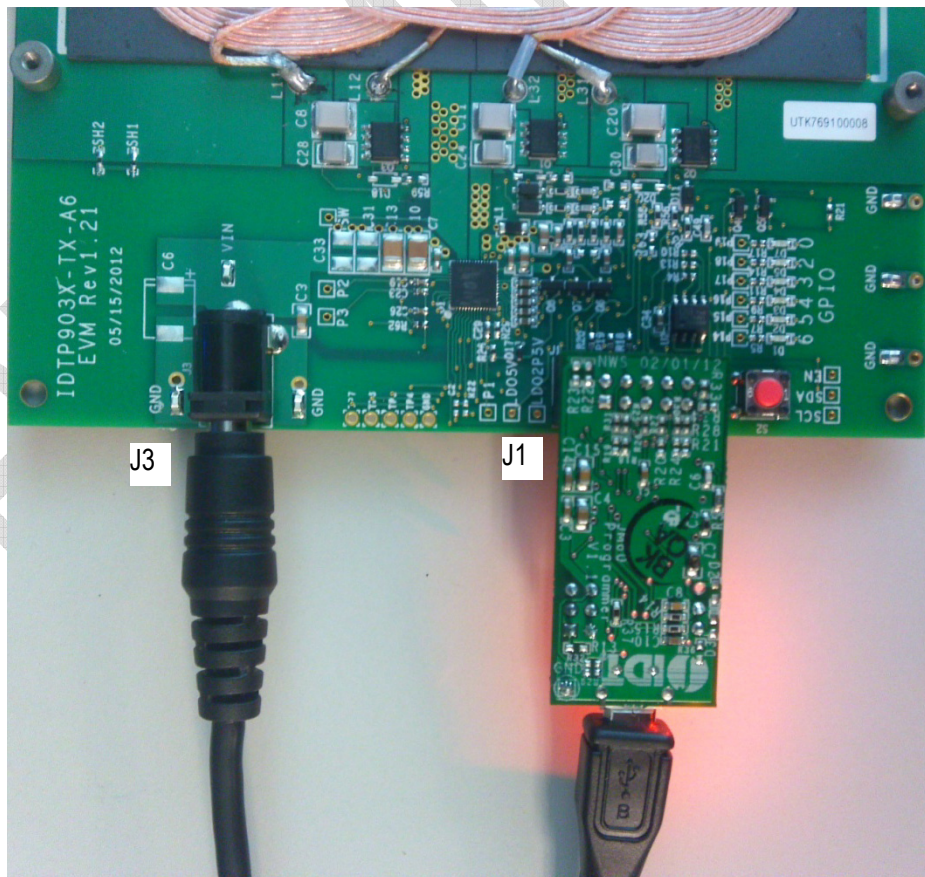

Figure 18. IDTP9036-EVAL JM60, AC Adaptor connections.
2. Connect the JM60 to the connector of the IDTP9036-TX-A6 EVM board (J1 Figure 18).
3. Plug the AC adapter into the wall (120 VAC) and connect the other end (12 VDC) into the adapter plug on the EVM board (J3 Figure 18).